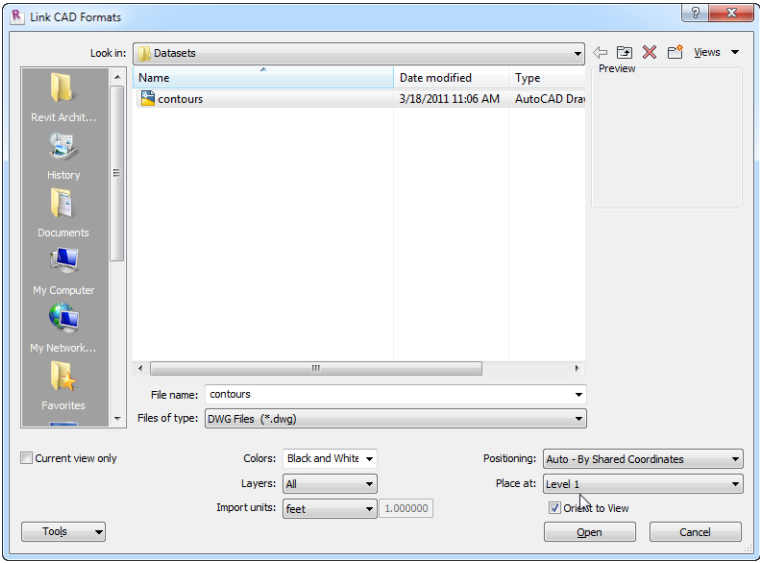

FIGURE 18.29: Changing the link settings
6. Make sure Orient To View is selected. (See Figure 18.29.)